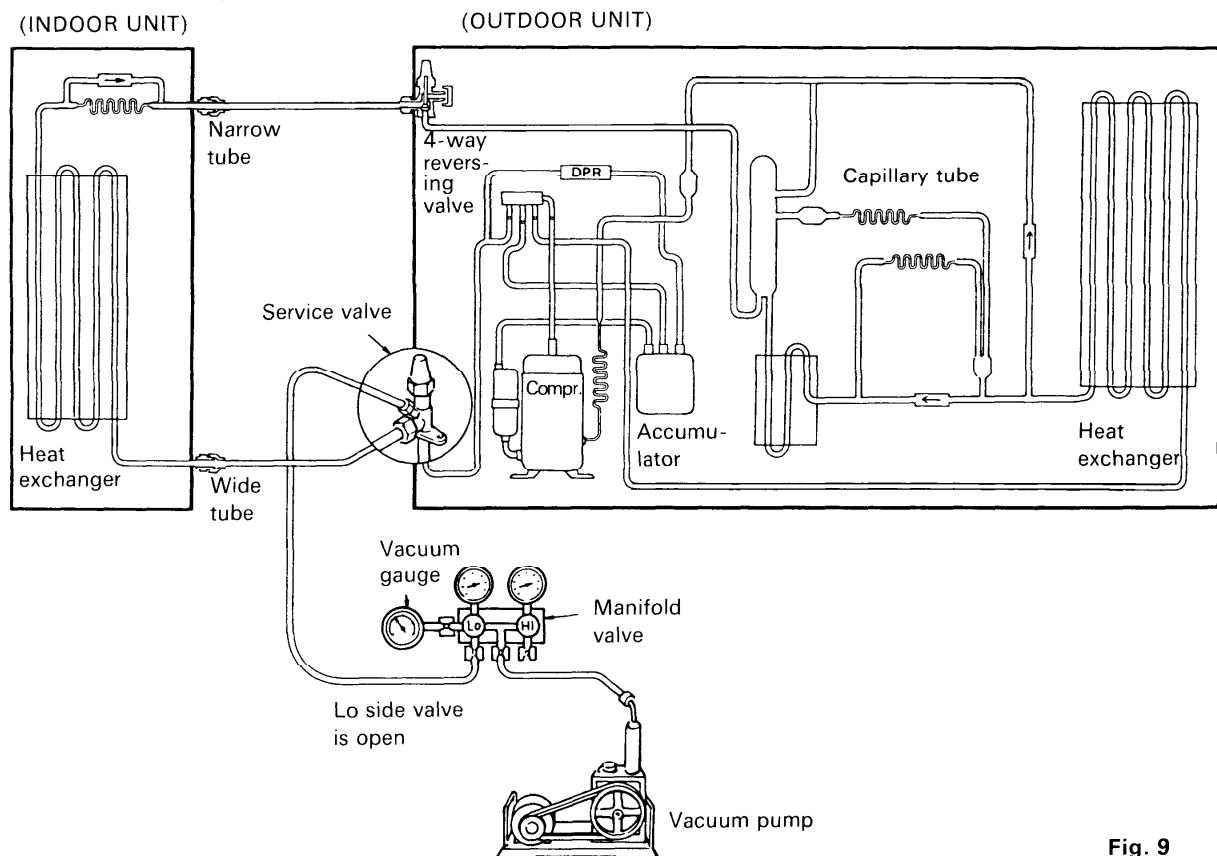

Fig. 9
- If no gas leakage is confirmed, connect both vacuum pump and vacuum gauge to service valve through 1/4" port with a flare nut. See Fig. 9